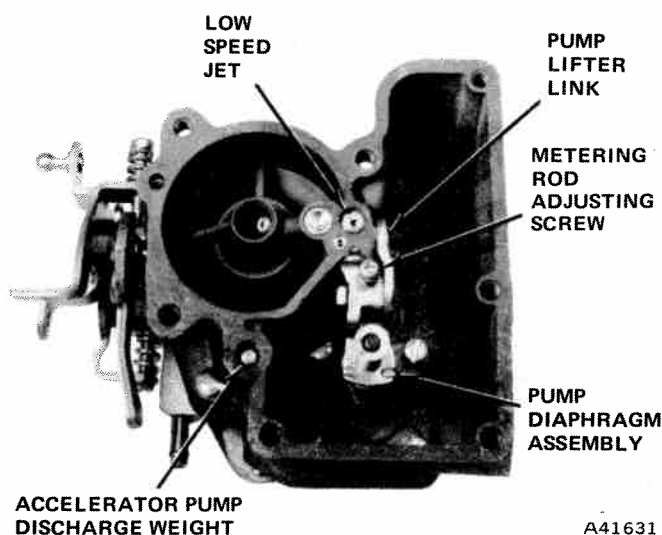

Fig. 4-22 Interior View of Fuel Bowl
(4) Reposition plate if necessary and tighten and stake (or peen) screws in place.
(5) Place new body flange gasket and main body casting on throttle body flange and install attaching screws and tighten evenly.
(6) Install low speed jet and metering rod jet (fig. 4-22).